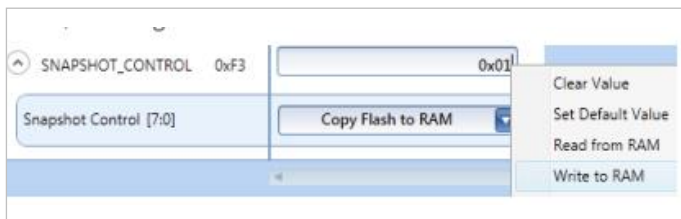

Figure 13: Write of SNAPSHOT\_CONTROL in register view
3. Restore snapshot data from NVM to RAM by writing 0x01 to SNAPSHOT\_CONTROL. This can be done in the Registers view by right-click and choose Write to RAM, see Figure 13.